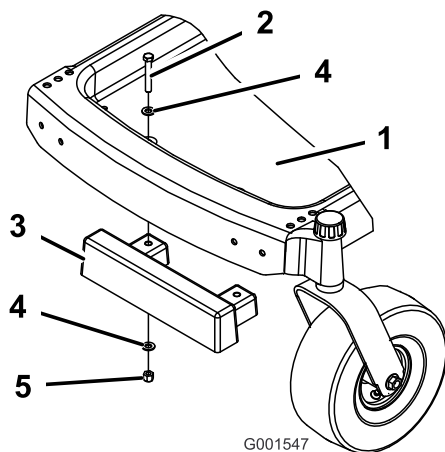

Figure 4
2. Attach the weight to the front of the machine frame with two bolts (3/8 x 2-1/4 inch), four washers (3/8 inch), and two locknuts (3/8 inch) as shown in Figure 4.